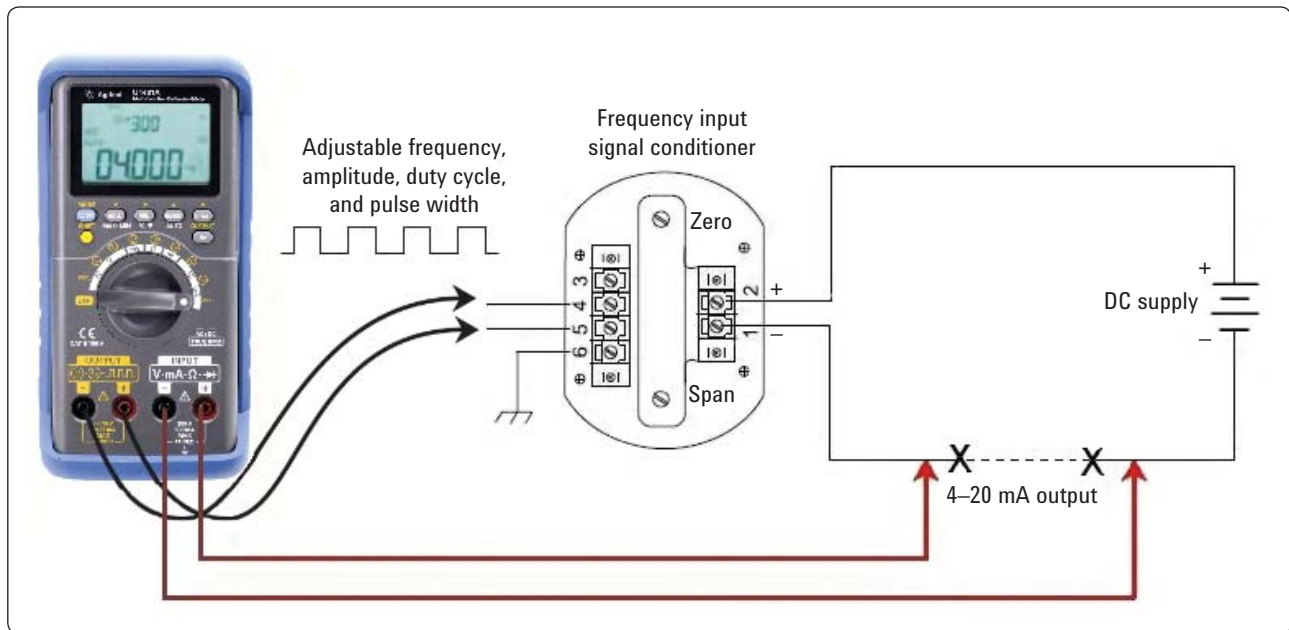

Figure 2. Calibrating turbine flow meter signal conditioner
2. Turn the U1401A rotary switch to square wave output mode and mA measure mode. See Figure 2.